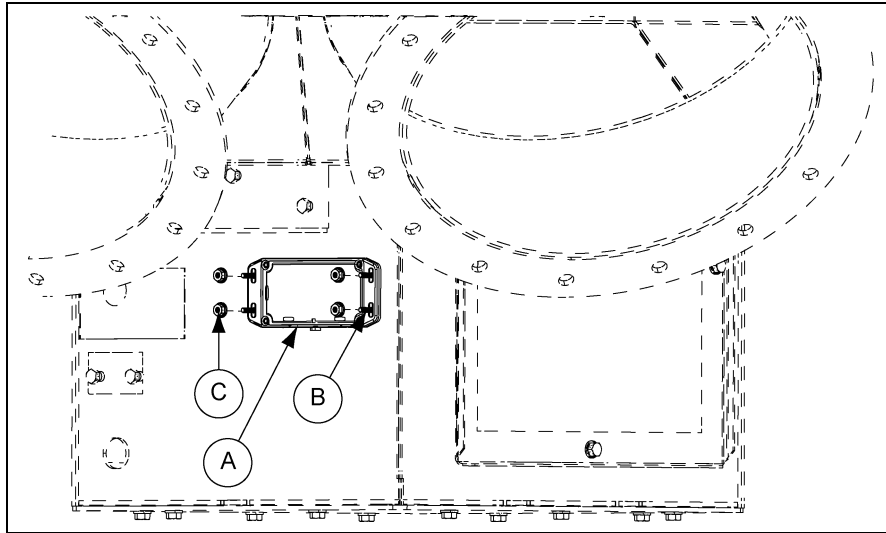

Figure 6J
1. Install the connector box to the inside of the enclosure using four (4) bolts (B) and nuts (C). Make sure nuts are located on the outside of the enclosure. (See Figure 6J.)